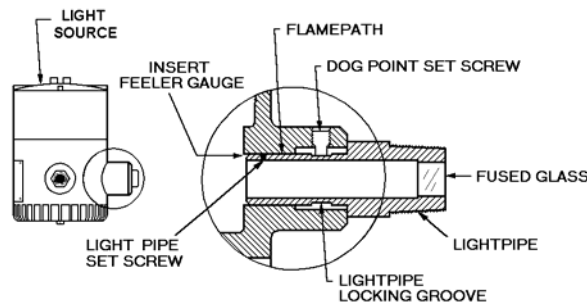

Fig. 4.2 - Light Pipe Installation - NPT, Flanged or Tri-Clamp Mounted Systems
- ❑ Insert a feeler gauge from the inside of the light source around the light pipe as shown in the previous figure (Fig. 4.2). Referencing the flame path illustrated in dotted rectangular lines, the gap between the OD of the light pipe and the ID of the light source should be less than 0.0020 inches. If the gap is greater than 0.0020 inches, **do not use your light source!** The explosionproof/flameproof integrity cannot be maintained. Consult the factory immediately. If your light is rated for weatherproof environments only do not be concerned with the flame path gap. (Note: It may be easier to check the flamepath with the o-ring temporarily removed. However, do not forget to reinstall the o-ring, in order to maintain NEMA 4 and IP66 ratings).